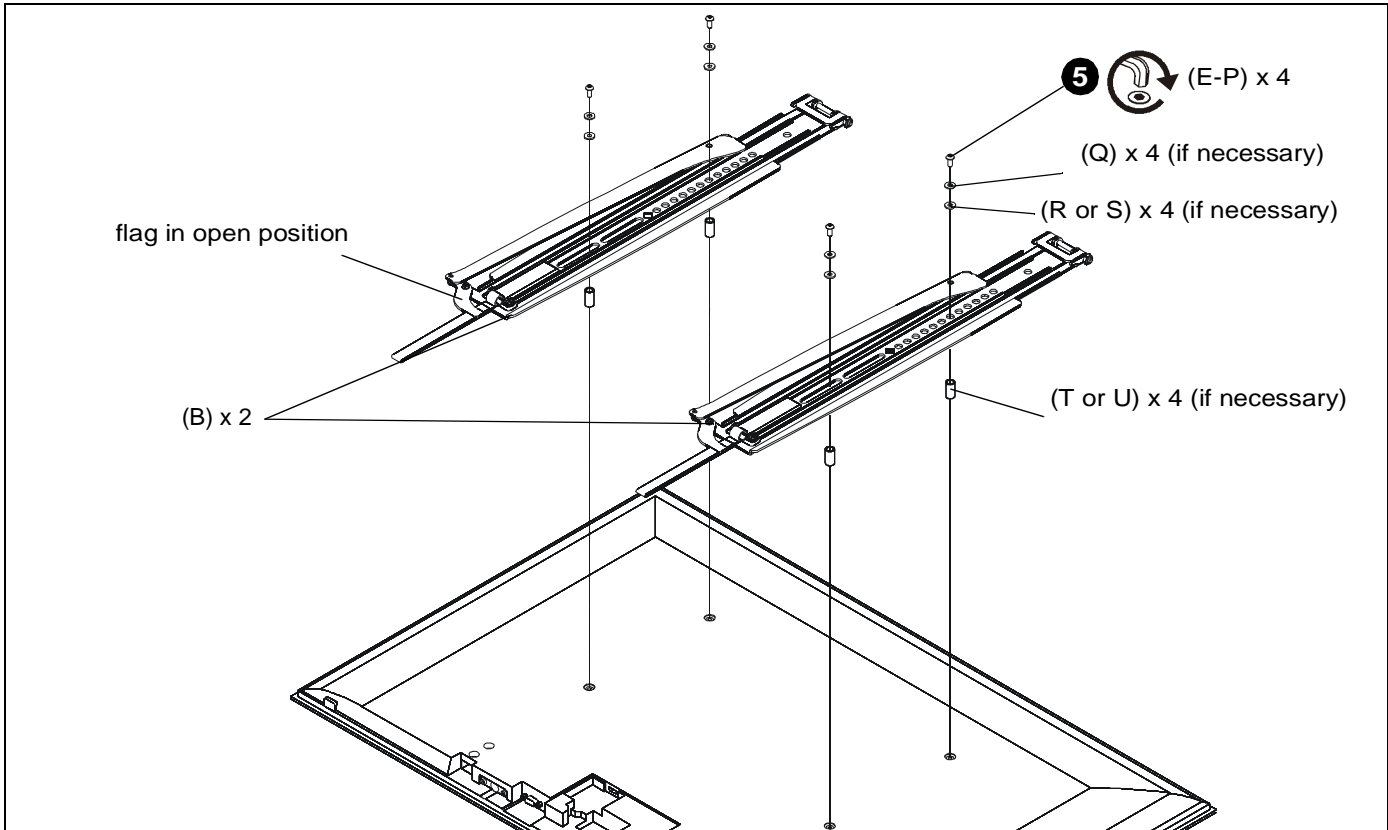

Figure 3
5. Install four button head cap screws (E-P) through required washers (Q) and spacers (R-U), interface brackets (B) into holes on back of display. (See Figure 3)
NOTE: Make sure locking flags are in the open position before attaching display to wall plate. Flags are shown in the open position in Figure 3.